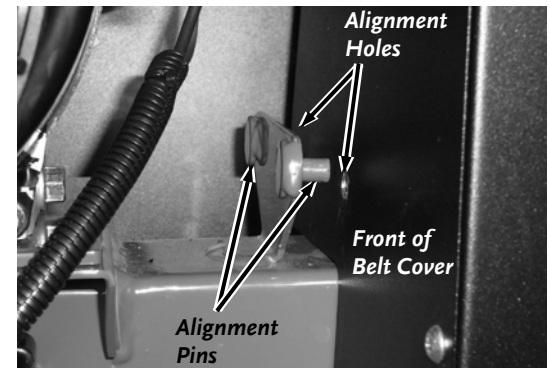

Figure 33
3. Move the Belt Guard forward and lift it off the alignment pins to remove it from the machine (**Figure 33**).